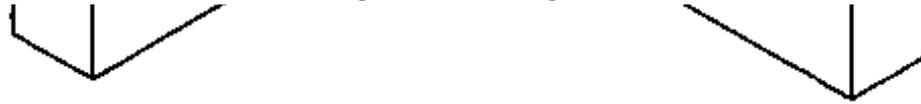

Fig. 1
**Fig. 1 shows the bond for all courses with an odd number (1st, 3rd, 5th, etc.). These consist of full blocks only. The through block (A) is set exactly in the middle of the crossed wall.**